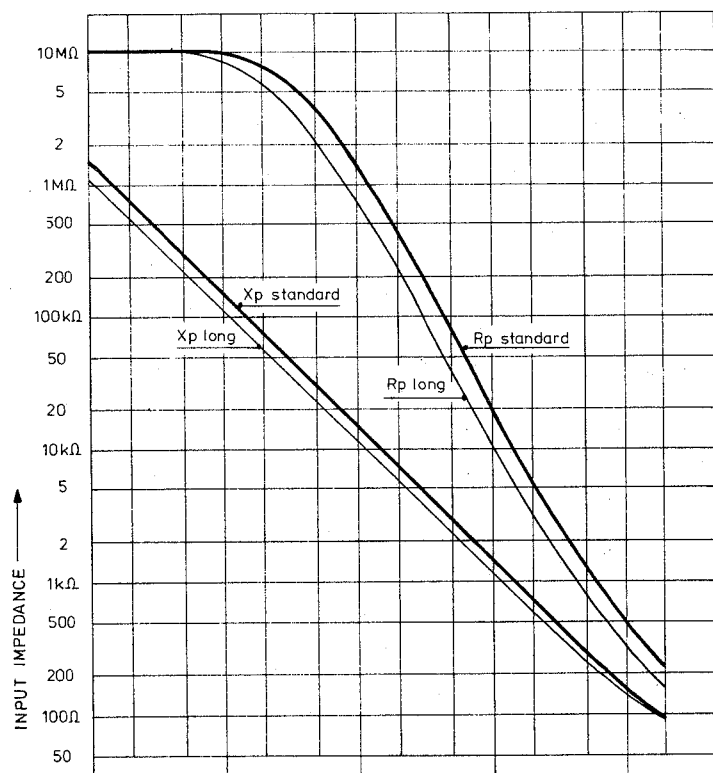

Fig. 1.3.
a.c.	See curve Fig. 1.3.
Input reactance h.f.	See curve Fig. 1.3.